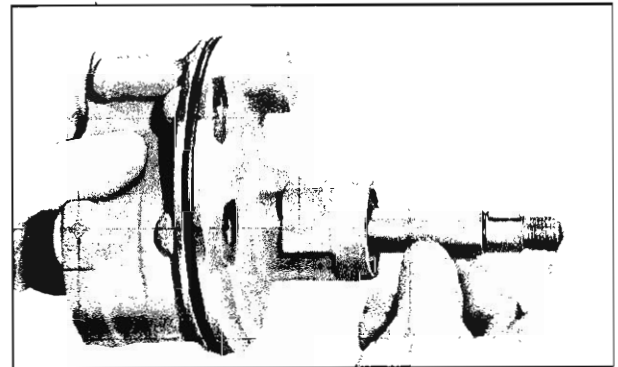
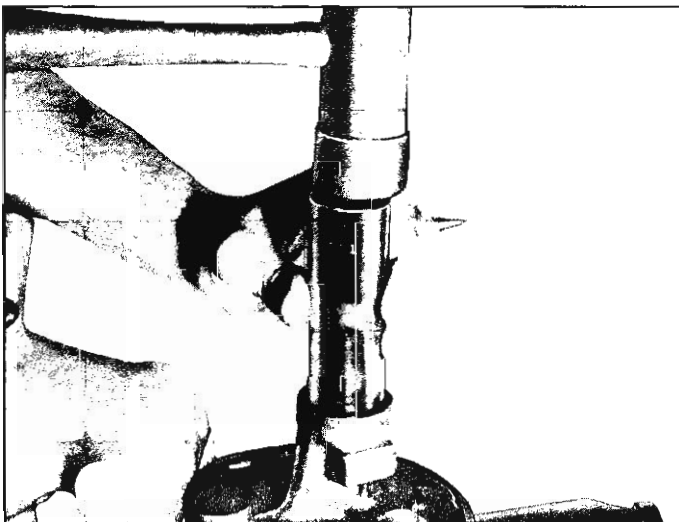

Fig. 68—Shaft Installation
Fig. 67—Installing Seal Using Tool J-8818
1. Install new shaft seal, using Tool J-8818 as shown in figure 67 and insert shaft at hub end of housing, spline end entering mounting face side (fig. 68).